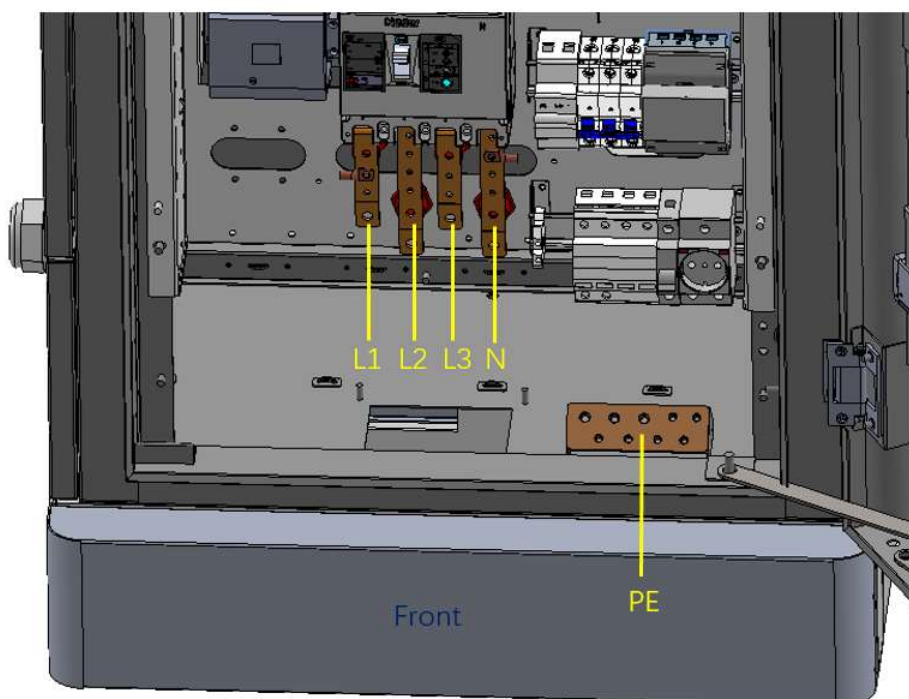

Figure 10 Terminal wiring diagram
(1) Open the front door of the charger and introduce the power cable from the bottom.
(2) Connect the power cable to the copper busbar as shown in Figure 10, and ensure that the screws are tight enough; throughout the wiring process, avoid scratching and damage of the cable insulation to cause short circuit.